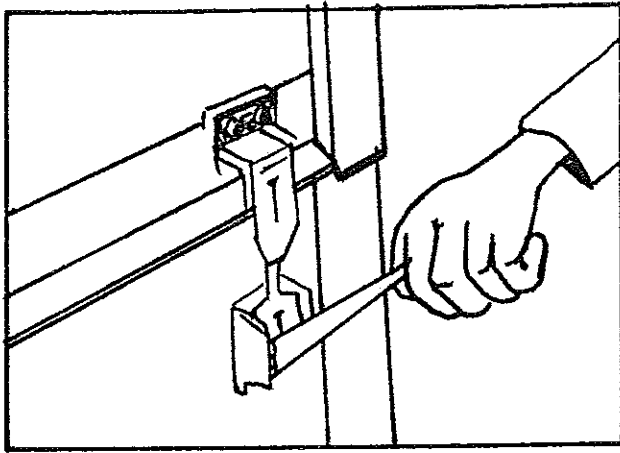

FIGURE 3
8. Unlatch the four "top" latches. See Figure 3.